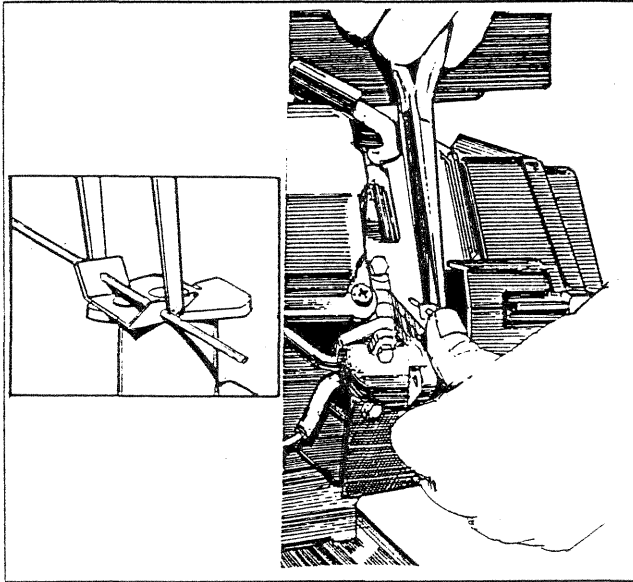

Figure 10 — Adjusting Throttle Linkage
3. With pliers, lightly compress the spring clip on the carburetor lever arm. This allows the linkage rod to slide freely through the clip. While the clip is compressed, rotate the throttle lever in the appropriate direction to increase or decrease the gap until there is 0.003 inch (0.08-0.5mm) clearance (Figure 10).